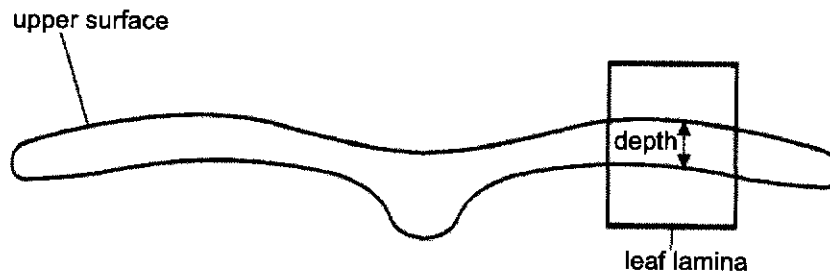

Fig. 3.1
- (a) Select the part of the leaf (lamina) on J1, shown in Fig. 3.1.